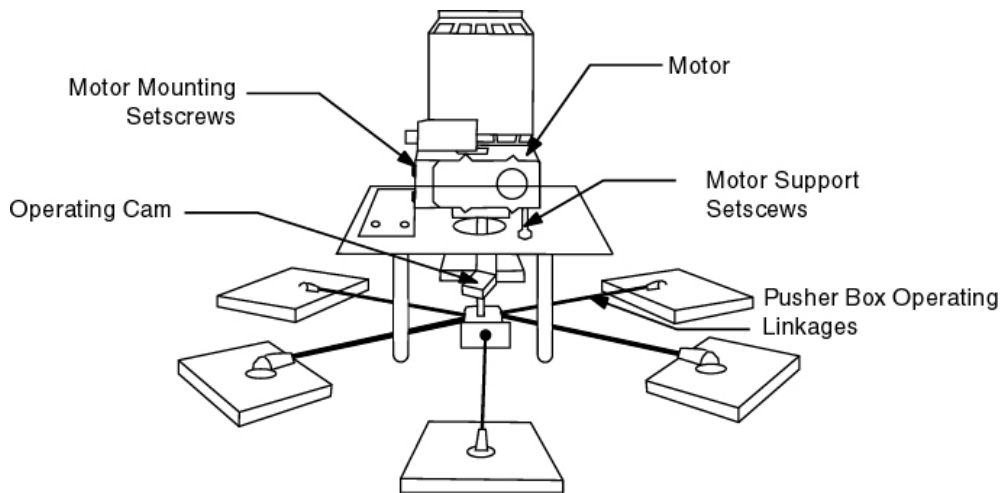

Figure 14 Playfield Motor and Linkage
2. Remove the Splash box guard, secured by 2 crosspoint screws (Figure 14).